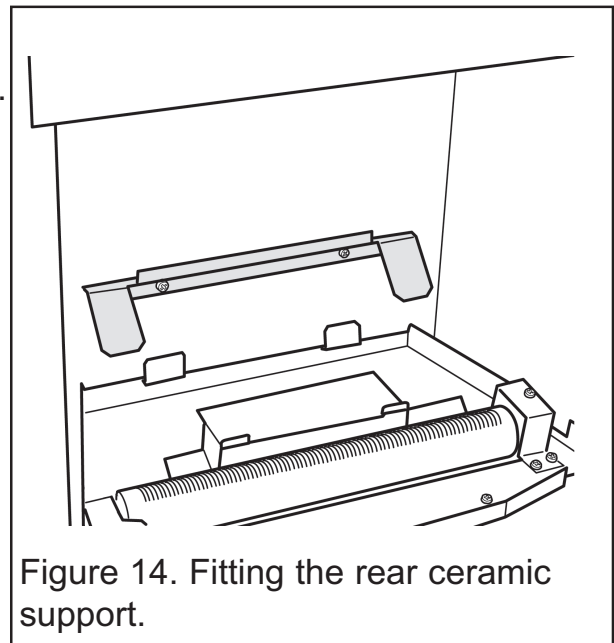

Figure 14. Fitting the rear ceramic support.
**5.** This appliance is supplied with a rear ceramic support bracket. Fit this using two screws supplied (See figure 14)